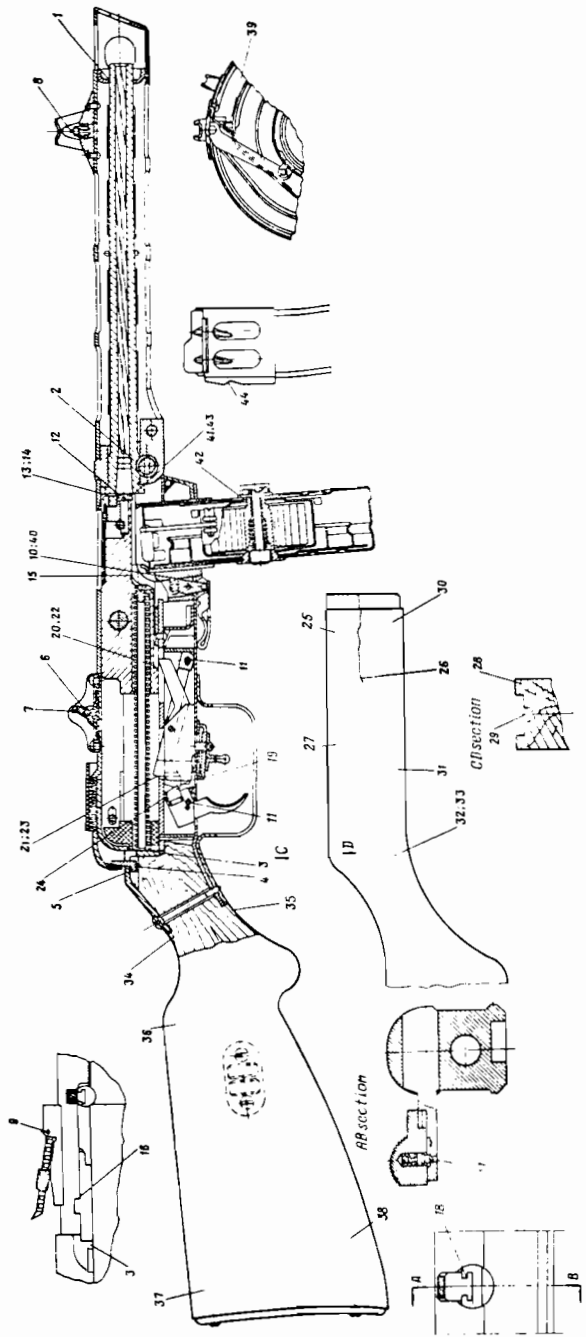

Figure 15. PPSH-41, section.
b. The firing cycle starts with the bolt caught to the rear by the sear (fig. 15). Pressure on the trigger causes the sear (21) to disengage from the bolt. The force of the driving spring drives the bolt forward. The feed rib on the bolt strikes the top cartridge in the magazine and drives the cartridge out of the magazine and into the barrel. The extractor snaps into the rim of the cartridge, and the fixed firing pin ignites the primer.
c. The recoil of the fired cartridge forces the bolt to the rear. This, in turn, compresses the driving spring. The fired cartridge case is held to the bolt by the extractor until the case strikes the fixed ejector (15); the case then pivots
d. The sear, which holds the bolt cocked, is a pivoted, spring-loaded bar with a step (19) in its rear surface. The trigger has a forward-projecting, spring-loaded trigger pawl (24) mounted in its top side. This pawl mates with the step on the sear and serves to depress the sear when the trigger is pressed (fig. 15). A pivoting disconnecter (20) is mounted on the selector and moves back and forth with the selector. When the selector is forward, the disconnecter has no function; when rearward, the disconnecter projects into the bolt path, and the rear of the disconnecter just touches the trigger pawl.